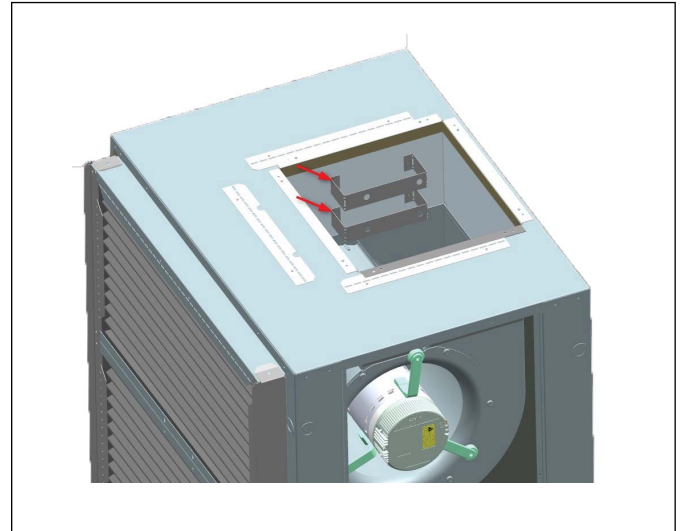

Figure 21 036, 048, 060, and 070 Models with Extension Bracket
3. For the 036, 048, 060, and 070 models, an extension bracket will already be installed in the unit as shown in figure 21.